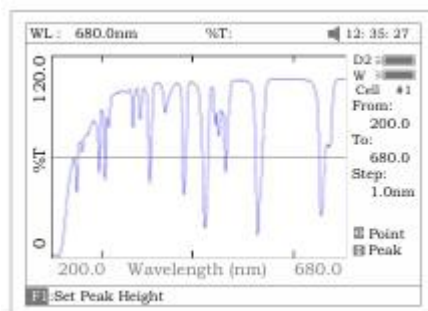

Fig.49
6. Press **【F3】** to search the Abs/%T value of the scan. There are two ways for you to search (Fig 49).